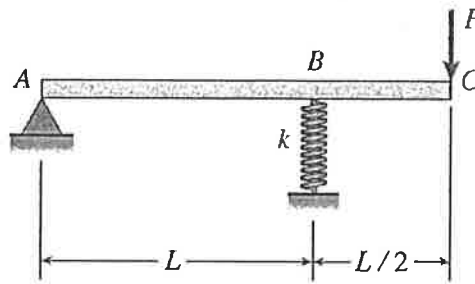

Figure 3
3. An overhanging beam ABC rests on a hinge support at A and a spring support at B , as shown in the Figure 3. A concentrated load P acts at the end C of the overhang. Span AB has length L , the overhang has length $L/2$, and the spring has stiffness k . The origin of coordinates is at the left-hand end of the beam, and beam has constant flexural rigidity EI . Determine the downward displacement δ_c of the end C of the overhang. (20%)